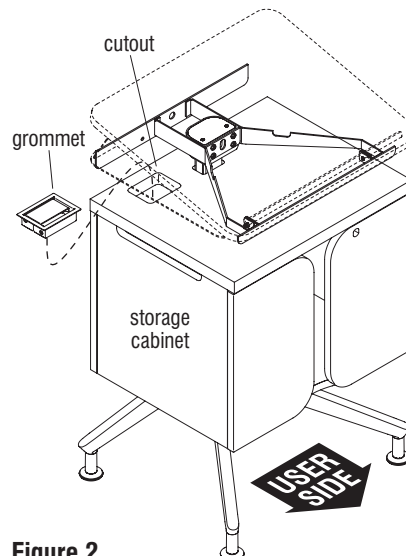

Figure 2
1. Carefully turn the lectern to the upright position on the floor, if not upright already (Figure 2).
2. Position the grommet above the cabinet cutout with the lid opening towards the user side (Figure 2 & Detail C).
3. Push the grommet into the storage cabinet cutout as illustrated, tapping lightly with a rubber mallet if required. Use caution to avoid scratching the grommet (Figure 2 & Detail C).